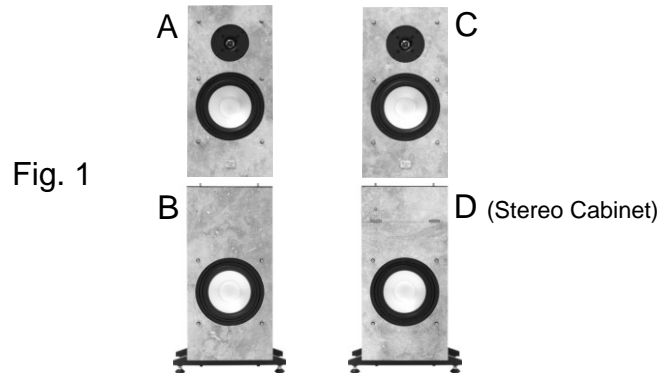

Fig. 1
- 3. Referring to *Fig.1*, on the next page, carefully remove all loose components and parts from each box as designated by the corresponding letter: